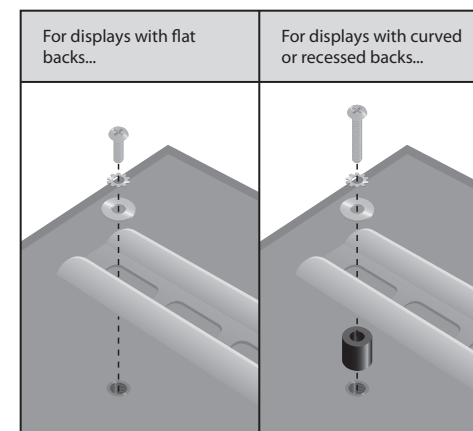

Fig. 5 - Use a longer bolt and spacer for displays with curved or recessed backs. Do not use the M6 Washer (O) if you are using the M8 Bolts (J or K).
1. Examine the back of your television. If the back of your display is flat, you will be using one of the shorter bolts from the hardware kit. If the back of your display is curved or recessed, you will be using one of the longer bolts and a spacer (Fig. 5).
4. Attach the arms to the back of your display using the bolts identified in Steps 1 and 2 and the corresponding Lock Washer (C, F, I, or L) (Fig. 5) You will need to use the M6 Washers (O) if you are using the M4, M5, or M6 bolts. If your display has a curved or recessed back, you may also need to use a Spacer (M or N). Make sure all screws are snug, but do not over-tighten.